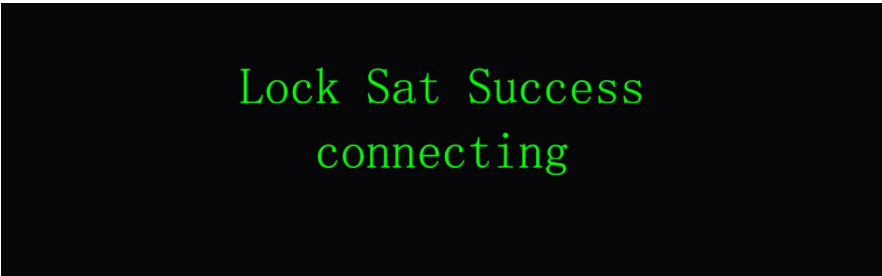
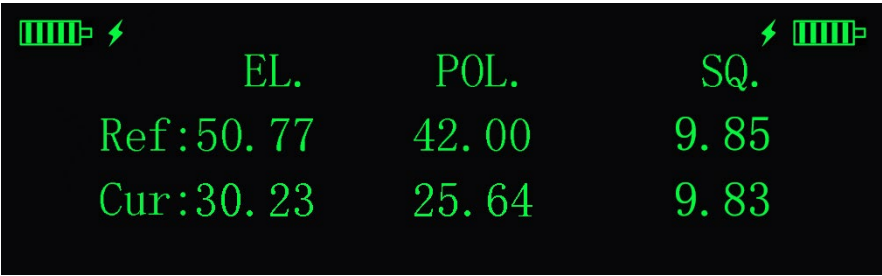

Figure 5-21 Prompt for Satellite Completion
Figure 5-22 Signal Quality Display
8. After satellite alignment is completed, BUC is enabled automatically, as shown in Figure 5-21. After successful network access, the network can be used, as shown in Figure 5-22.